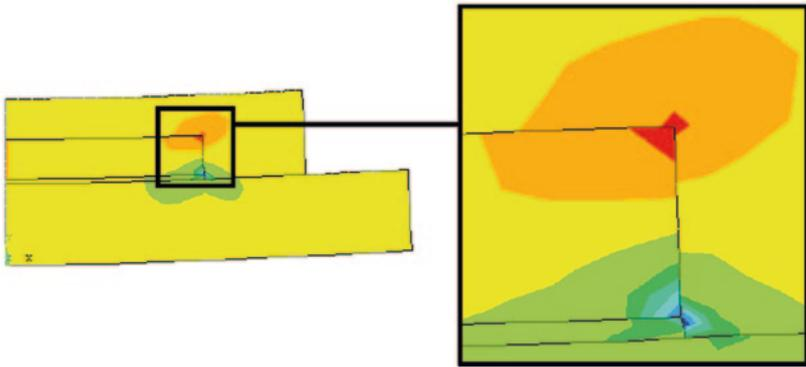

Fig. 8.62 Contour plot of the shear stress (σ_{xy}): in the entire package (*left*) and in the vicinity of the die/die-attach interface (*right*)
- The resulting contour plot, along with a zoomed-in view of the critical junction, is shown in Fig. 8.62.